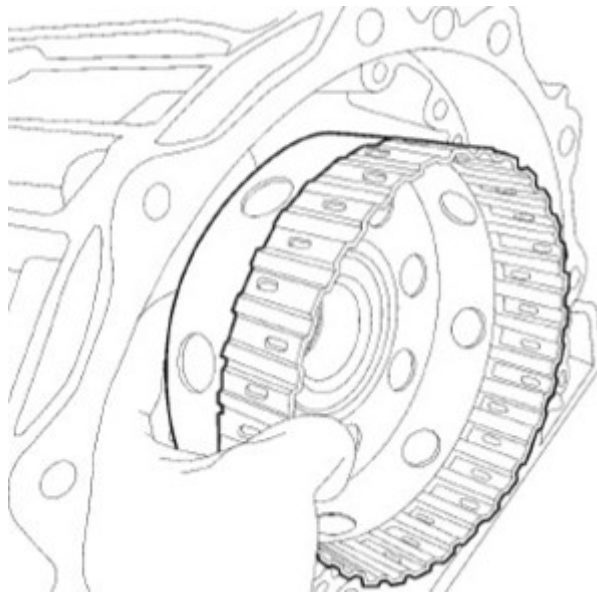

Fig. 12
15. Remove and inspect the K2 clutch hub (Fig. 12) .
18. Install the K2 clutch hub into the transmission case (Fig. 12) .